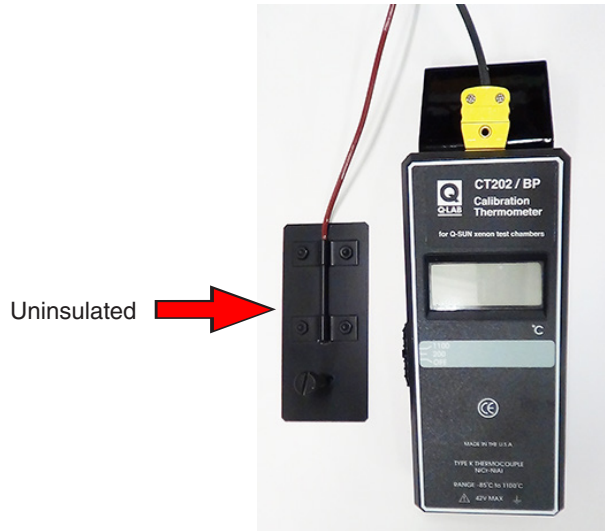

Figure 11.2.2a: CT202/BP Calibration Thermometer with Uninsulated Black Panel
- Use the CT202/BP with uninsulated black panel (also known as "black panel"), Figure 11.2.2a.